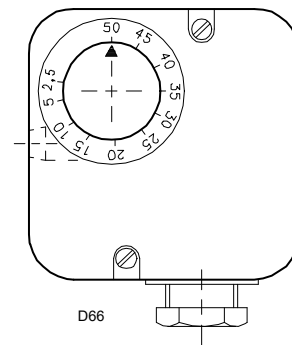

Fig. 25
- Adjust the maximum gas pressure switch to the end of the scale (Fig. 25).